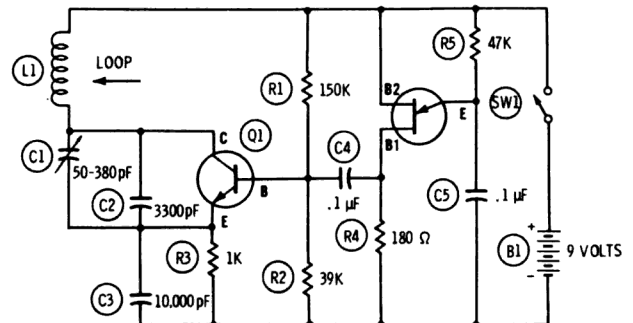

Figure 2: Transmitter circuit.
*Transmitter* - As shown in Fig. 2, transistor Q1 and its associated components L1, C1, C2, C3, pi, R2, and R3 form an oscillator circuit. The operating frequency, which is in the rf range, is determined by the loop and the three capacitors. The three resistors are used to set the operating bias and the output level of the oscillator.